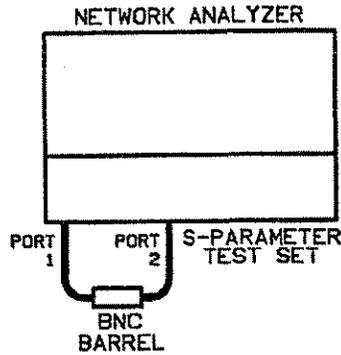

Figure 1-9. S-Parameter Test Set Calibration Setup
1. Connect the equipment as shown in figure 1-9.